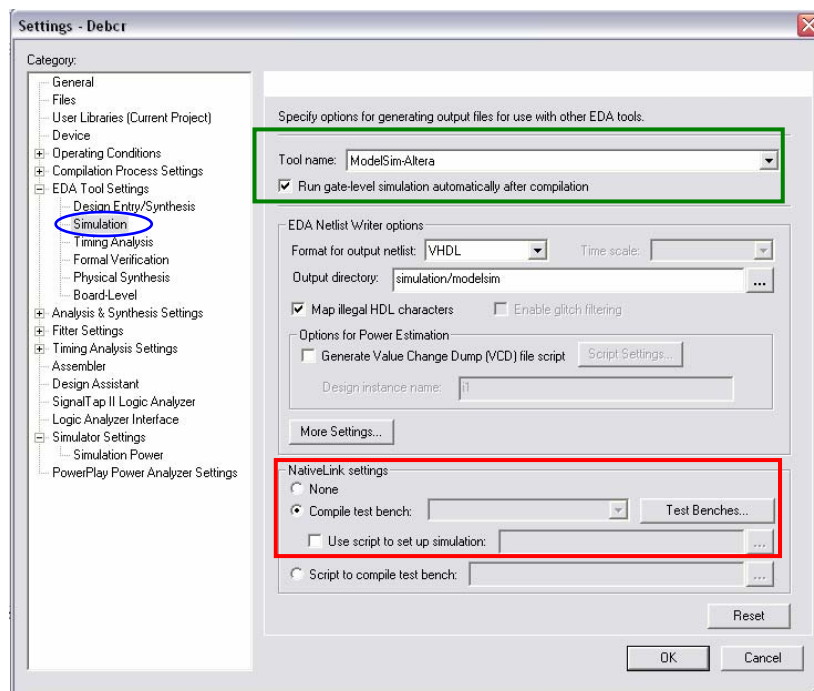

Figure 5: Settings dialog box for timing simulation
- Select **Simulation** from the **EDA Tool Settings** list (highlighted in blue in figure 5);
- Select **ModelSim-Altera** from the Tool name box (highlighted in green in figure 5);
- Turn on **Run Gate Level Simulation** automatically after compilation (highlighted in green in figure 5);
- In the **NativeLink settings** box select the appropriate testbench file, creation and setup of a testbench file is explained in 3.2.4 (highlighted in red in figure 5);
Figure 5 reports the Settings dialog box:
- Under the **NativeLink settings** select **Compile testbench** and click on **Test Benches** (highlighted in red in figure 5);